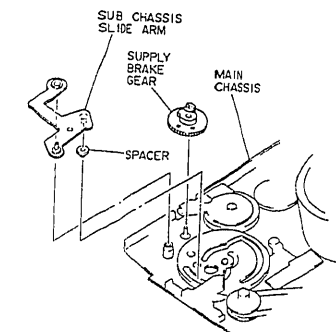

Fig. 2-49
- 1) Pull out the sub chassis slide arm and spacer from the main chassis. (See Fig. 2-49)
(2) Supply Brake Gear
- 1) Pull out the supply brake gear from the main chassis (See Fig. 2-49)